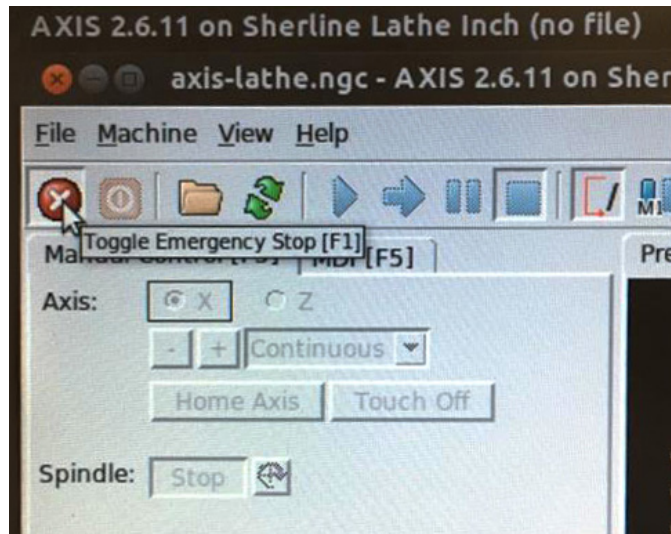

FIGURE 6
4. Click on the “Toggle Emergency Stop” icon (See Figure 6).